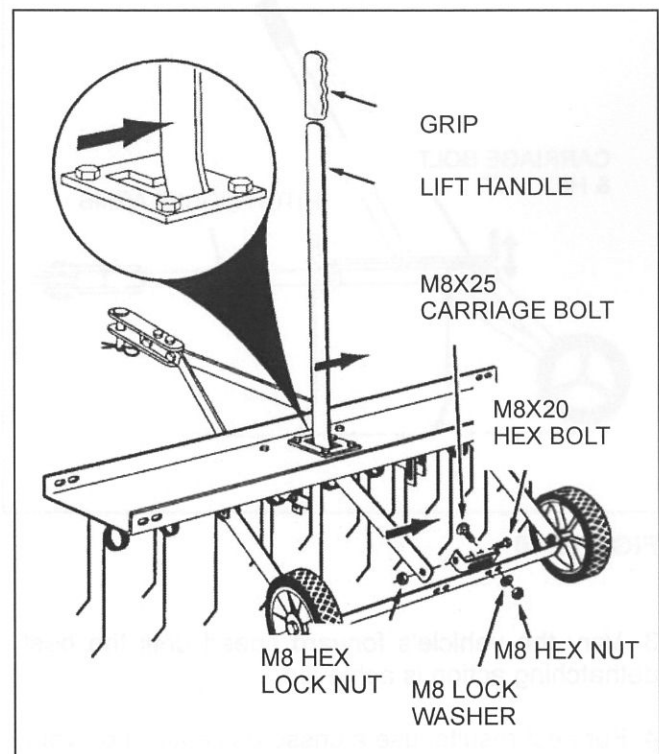

FIGURE 9
15. Assemble a hitch arm mount bracket to the axle bracket using two M8x25 carriage bolts, M8 lock washers and M8 hex nuts. Do not tighten yet. See figure 9.
16. Insert the lift handle down through the tine shield. Attach it to the just assembled hitch arm mount bracket using M8x20 hex bolt and a M8 hex lock nut. Tighten. See figure 9.
17. Position the hitch arm mount bracket so that there is side tension on the lift handle when it is locked in the up position. Tighten the nuts. See figure 9.
18. Assemble the grip onto the end of the lift handle. See figure 9.